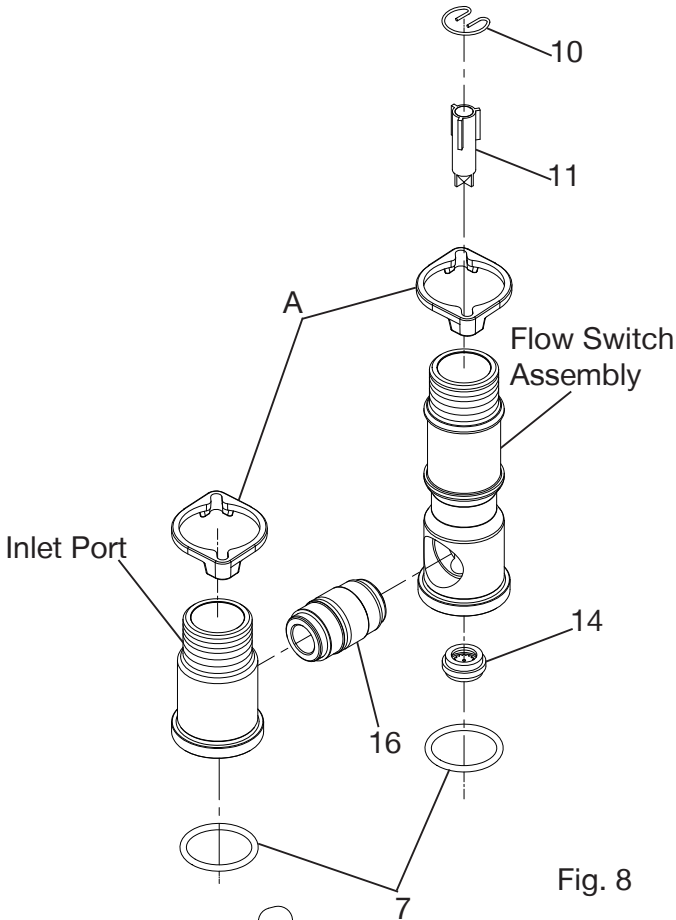
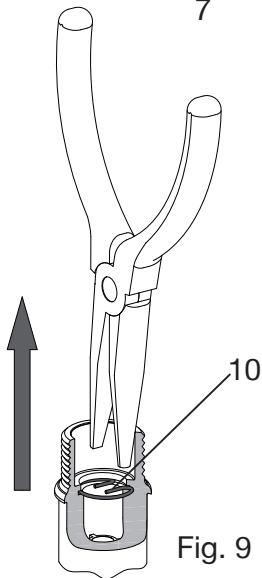

Fig. 8
Fig. 9
- Carefully dismantle the flow switch assembly, inlet port, NRV assembly (Item 16) and manifold clamps (Item A) – see Fig. 8.
- Remove the circlip (item 10) from flow switch assembly using circlip or fine point pliers (Fig. 8)
- Remove the magnet float (item 11) from the flow switch.
- Remove the flow regulator (Item 14) by pushing out using a diameter 8-9 mm rod or shaft – mild force will be required (Fig. 9).
**Note** – it is imperative that the new flow regulator (item 14) is fitted during this operation as **NOT** to do so will infringe Regulation 5 of the Water Supply Regulations that states any pump fitted to the mains supply pipe can only draw 12 l/min or less.
**Note** – Ensure the manifold clamps (item A) are placed over the flow switch assembly and inlet port **BEFORE** assembling them onto the NRV assembly (item 16), see Fig. 8.